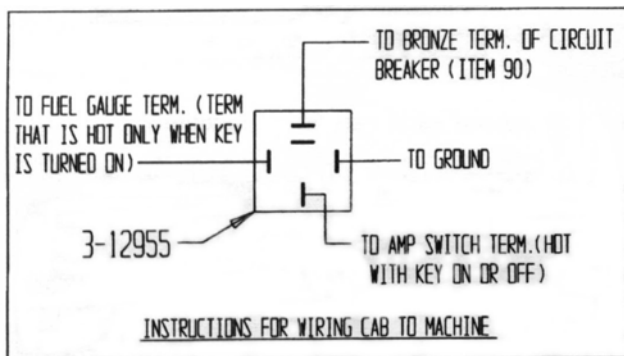

Figure 10
2. Refer to Figure 10 to make wire connections.